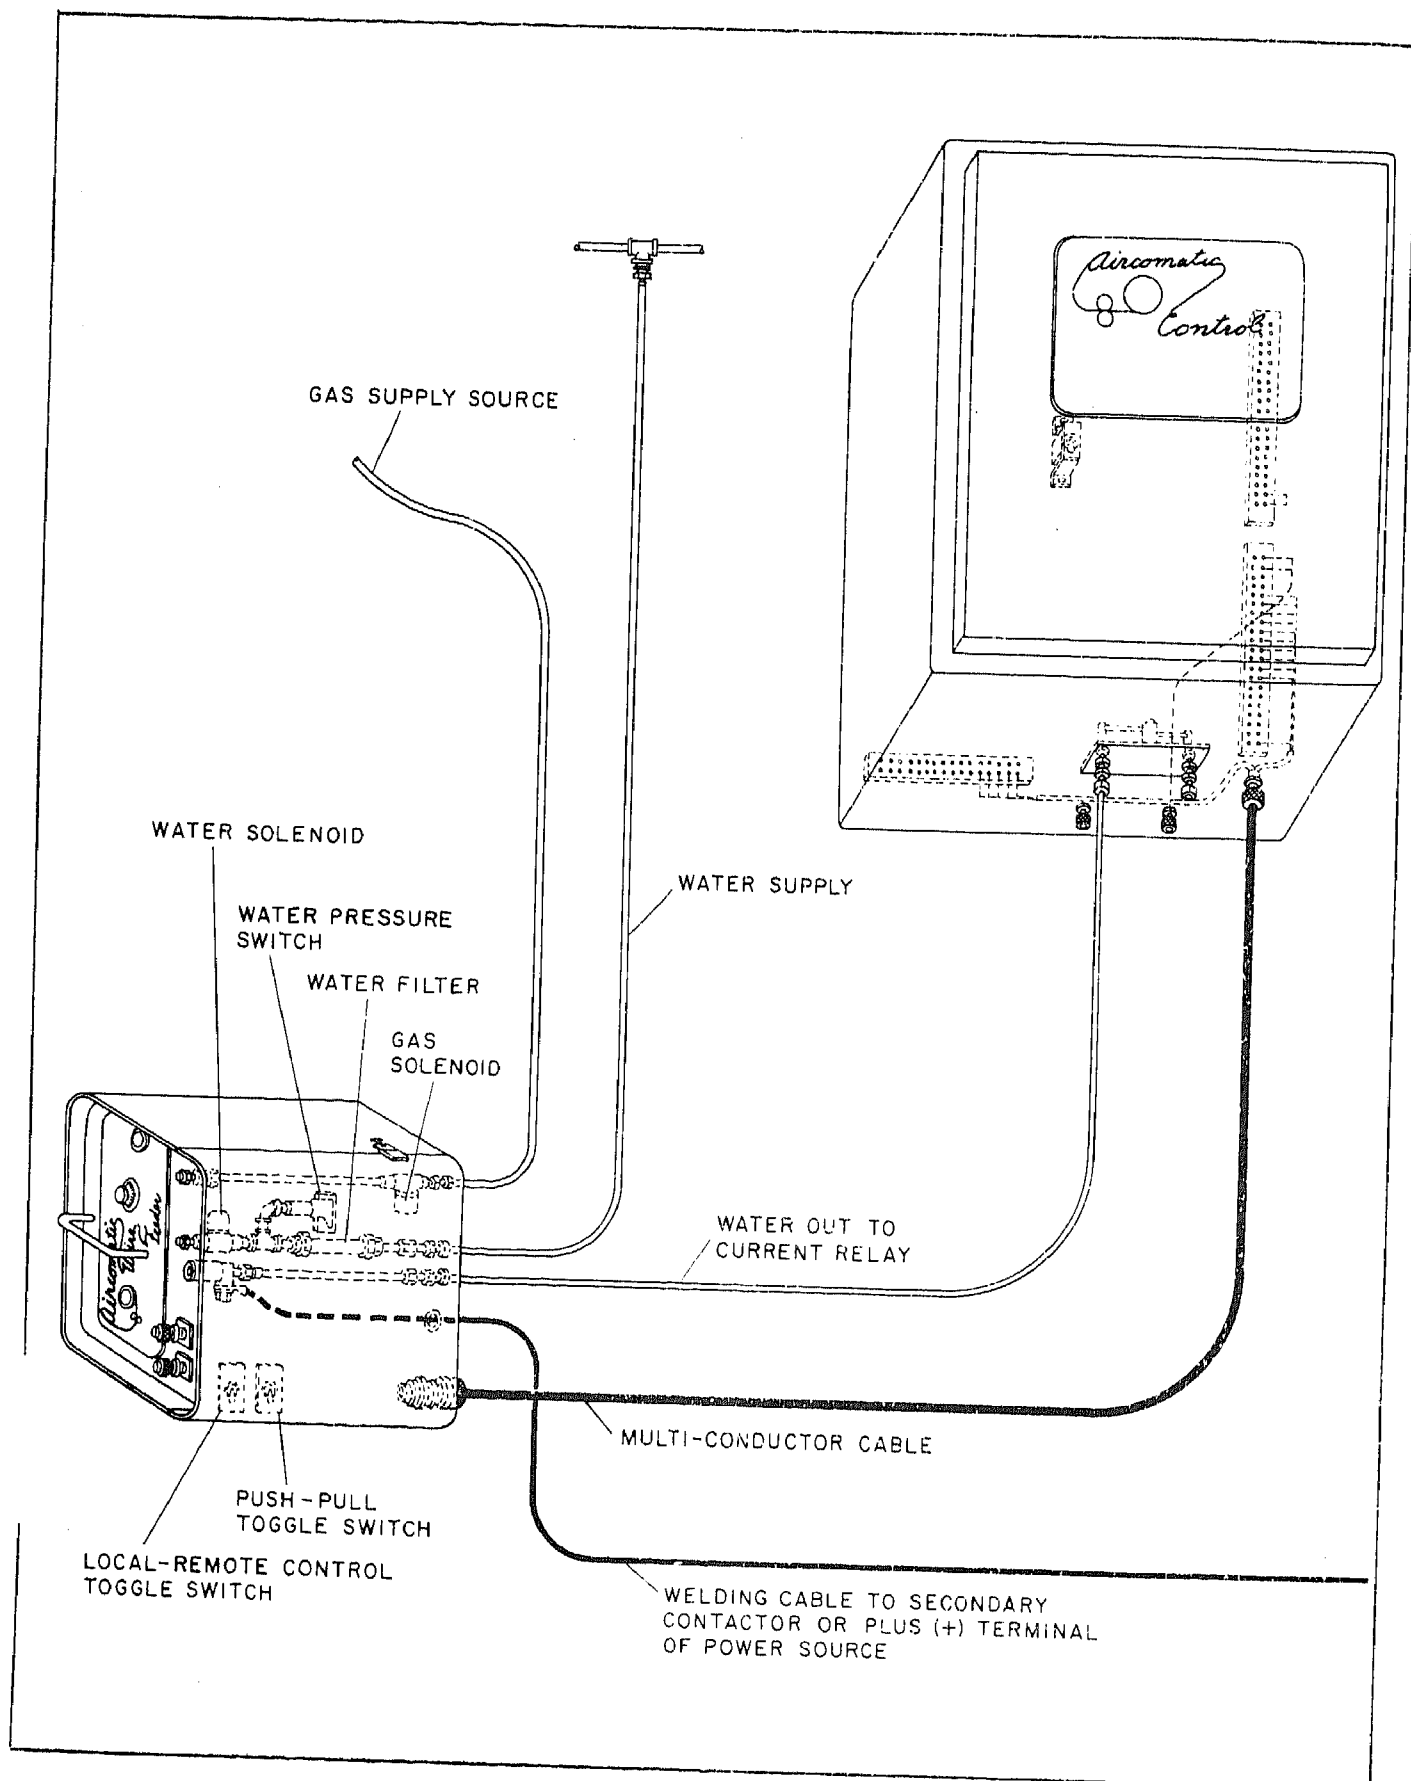

Figure 7. Interconnection Diagram
- a. The Feeder is interconnected (Fig. 7) with a Con-ol, welding power source, gun, and (if power source as not contain a primary contactor) a secondary ntactor. This requires two water hoses (water-olled guns only), a gas hose, a multi-conductor cable, d a contactor-to-feeder cable (or power source to eder). One of the water hoses (water-out-to-relay) d the multi-conductor cable are supplied in a hose d cable kit available in three sizes as shown in Table The other water hose is a customer-furnished,